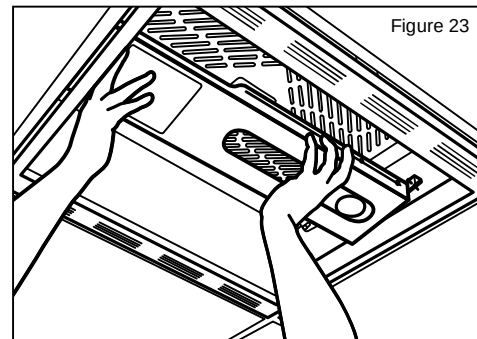

Figure 23
- 1 Install four 10-24 x 1" screws (H) into projector mount plate (2 at each end), and install projector mount plate into position inside box (see Figure 23).